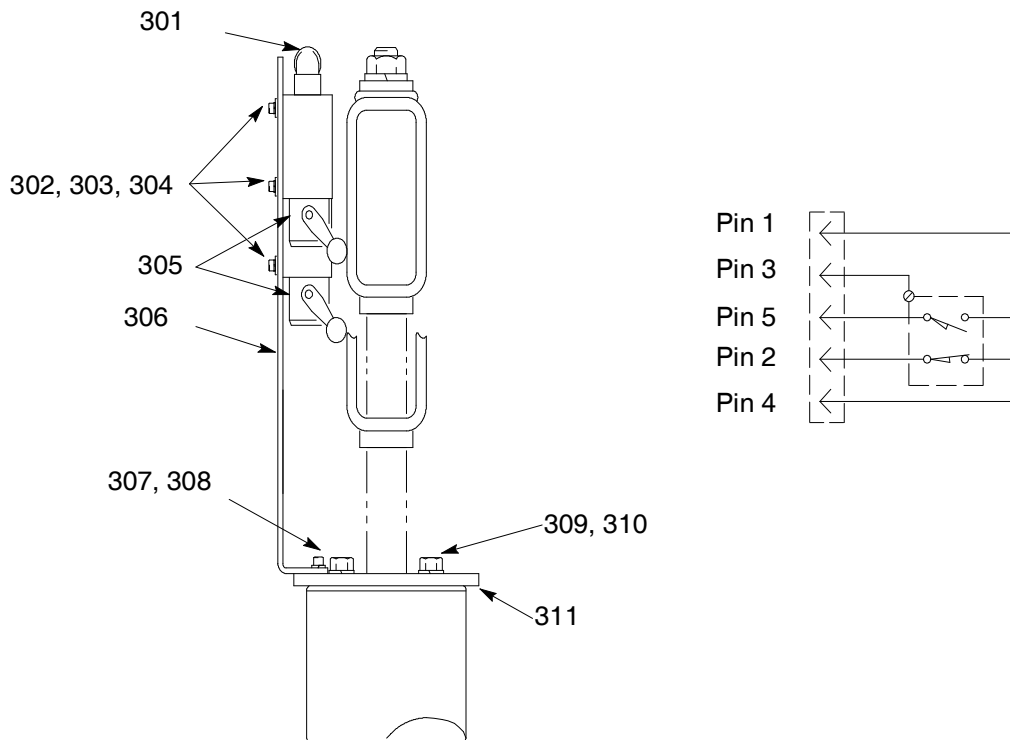

FIG. 26
3. Between the two limit switches (305), locate the faulty switch. See FIG. 26.
4. Disconnect the wiring (301) for the limit switch at its power source. For reference, use the wiring diagram shown in FIG. 26.
6. Measure the distance from the mounting bracket (306) to the outer diameter of the limit switch roller to ensure that the new roller is installed in the same position.
7. Remove three cap screws (302), the lock washers (303), the plain washers (304), and the limit switch (305) from the limit bracket (306). See FIG. 26.
8. Install the new limit switch (305) on the limit bracket (306) using the three cap screws (302), lock washers (303), and plain washers (304). See FIG. 26.
9. Reconnect the wiring (301) for the limit switch at its power source. For reference, use the wiring diagram shown in FIG. 26.
10. Make sure that the limit switch roller is positioned in the same location per the measurement in step 6. See FIG. 26.
11. Reinstall the cover on the Junction Box Panel (H).
12. Reapply power to the Junction Box Panel (H).